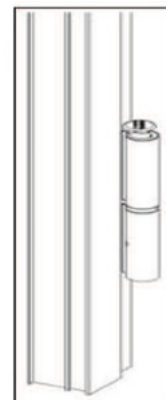

Figure 5
- Install or replace the black plastic hinge caps when hinge adjustment is complete, as shown in Figure 5.